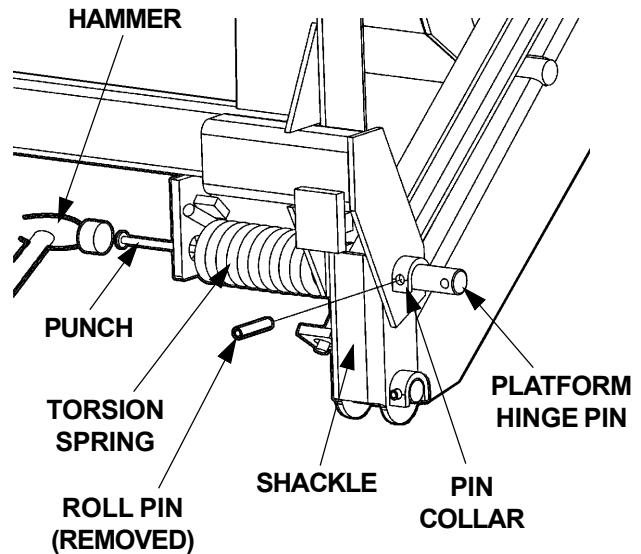

FIG. 4
3. Drive out the roll pin from pin collar on the Platform Hinge Bracket. Drive the platform Hinge Pin out of the Shackle with a hammer and pin punch, just enough to free the torsion spring (**FIG. 4**). Remove spring from Shackle.